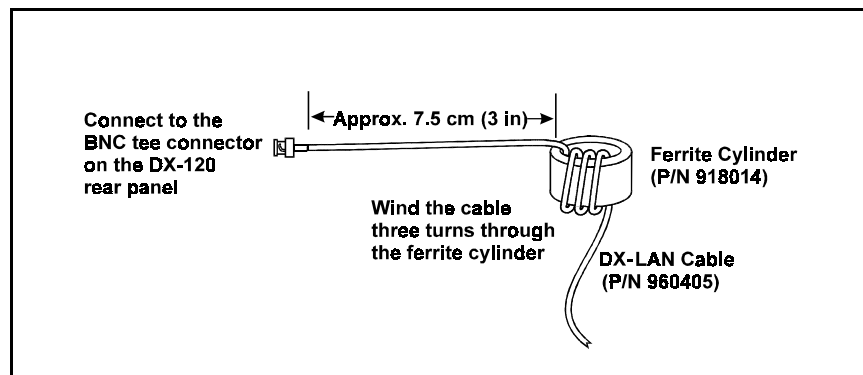

Figure B-4. Ferrite Core Installation on DX-LAN Cable
2. Locate the cylindrical ferrite core (P/N 918014) in the Ship Kit. The core is required for EMI suppression. Wind the DX-LAN cable (P/N 960405) three turns around the core (see Figure B-4). The core should be approximately 7.5 cm (3 in) from the end of the cable. Plug the end of the DX-LAN cable that is nearest to the ferrite cylinder into the BNC tee on the DX-120 rear panel.